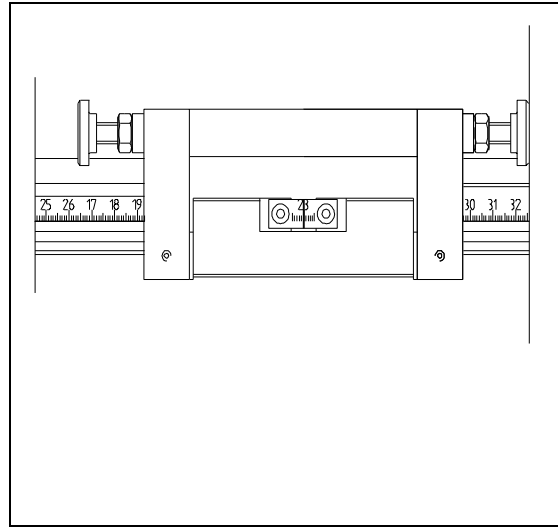

Figure 15
- 4 Adjust measure and swing the stop forwards. Stop clamps automatically (Figure 15).